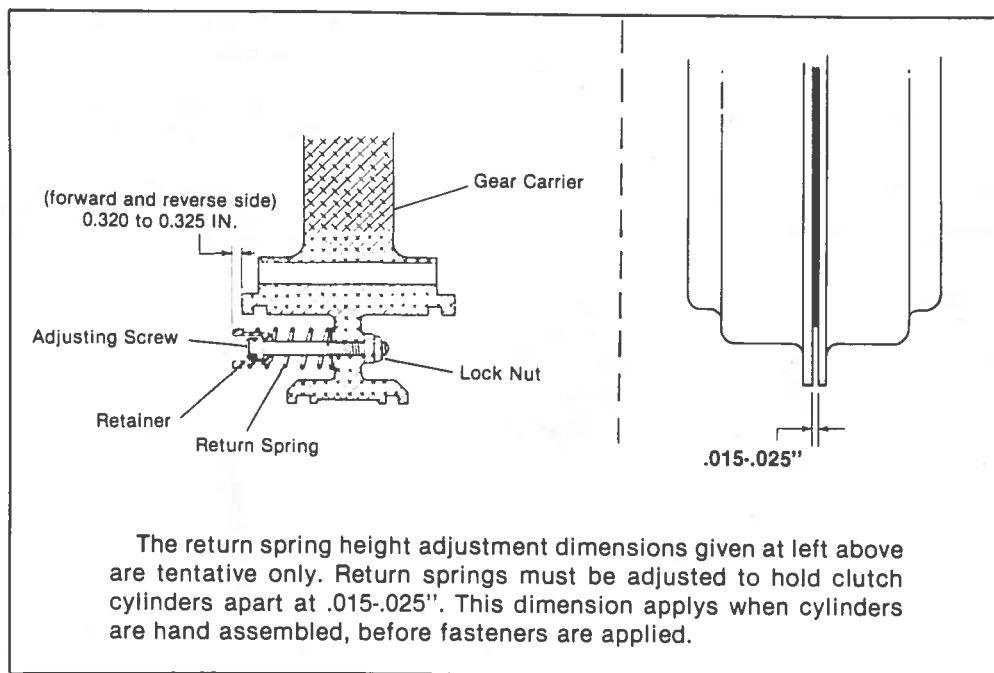

Figure 21. Clutch Return Spring Height Adjustment
3. Replacement of return springs and retainers (if necessary): Insert return spring retainers into return springs and secure in gear carrier using capscrews. Tighten capscrews tentatively until top of spring retainer protrudes the specified distance from the face of the bevel gear carrier hub as shown in figure 21.
4. Without installing quad rings, place cylinders on bevel gear carrier by hand. (See fig. 21) above. There must be a uniform gap between cylinders of .015 to .025". Check with a feeler gauge. If necessary, readjust return spring height and install locknuts.